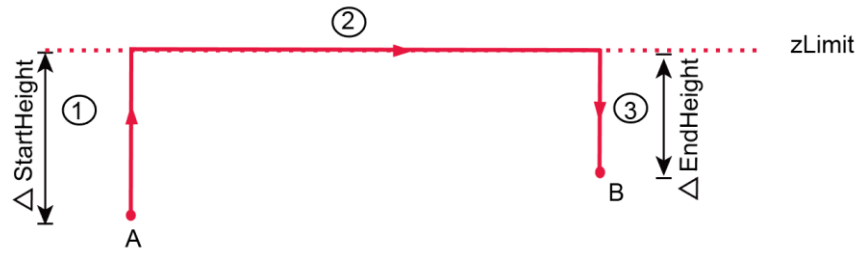

Figure 2.9 Jump mode (1)
- If point **A** plus **StartHeight** or point **B** plus **EndHeight** is higher than **zLimit**, the robot moves up from point **A** to **zLimit** or moves down from **zLimit** to point **B** directly, the trajectory looks like a door without transition, as shown in Figure 2.9.